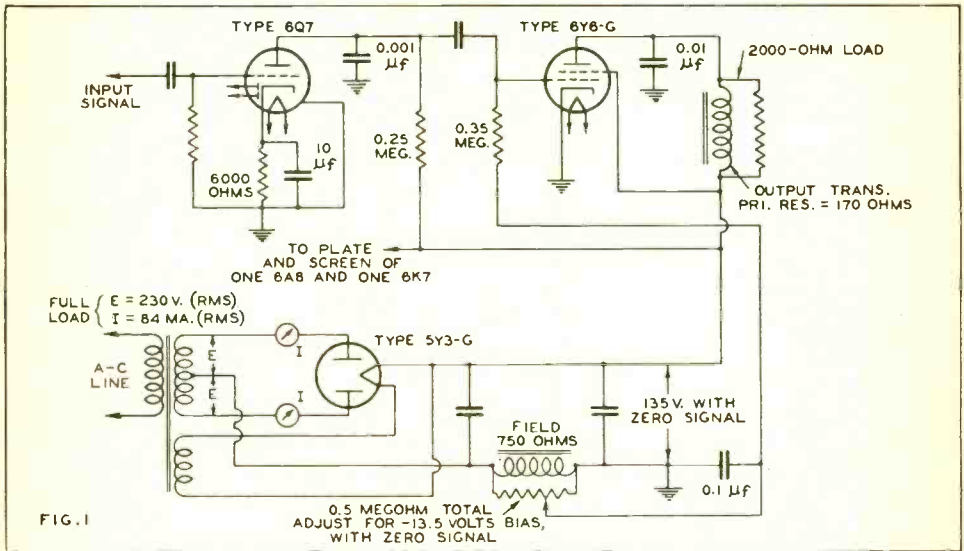

FIG. 1
Single-tube tests were conducted in a receiver using a 6A8, 6K7, 6Q7, 6Y6-G, and 5Y3-G. An a-f signal was fed to the input of the triode section of the 6Q7 and the power furnished by the 6Y6-G to the primary of the output transformer was measured. The circuit of the power supply and of the a-f portion of the receiver is shown in Fig. 1. In these tests, bias on the 6Y6-G was adjusted to -13.5 volts and the screen voltage was adjusted to 135 volts with no signal.
former's primary impedance at 420 cycles and a fixed resistor. Bias for the 6Y6-G was obtained from the voltage drop across the speaker field. This arrangement is preferred by some engineers because the voltage output of the filter (Fig. 1) is less than that required for self-biased 6Y6-G's by an amount equal to the bias voltage.
The output tubes were self-biased by a cathode resistor. When the bias is obtained from the voltage drop across the speaker field in a manner similar to that shown in Fig. 1, a large amount of hum is introduced into the grid circuit of 6Q7 (II). This hum voltage can be